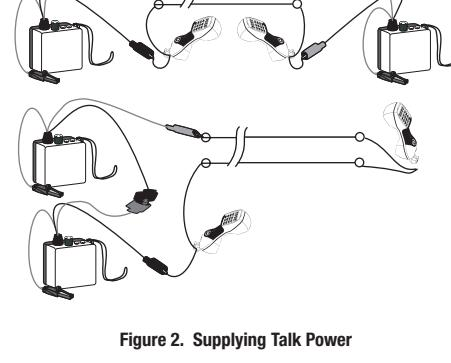

Figure 2. Supplying Talk Power
Connect the test leads in series with a telephone test set (buitset) and the inactive wire pair (Figure 2). Move the toggle switch to the SHORT position to supply the "dead" line with talk power.
**Additional test sets may be added, in series (red clip to black clip), to increase talk power supply when needed (Figure 2).**